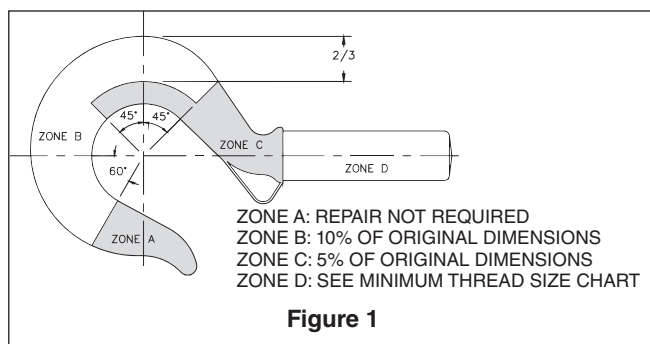

Figure 1
- Never use a hook that is worn beyond the limits shown in Figure 1.
- Remove from service any hook with a crack, nick, or gouge. Hooks with a nick or gouge shall be repaired by grinding lengthwise, following the contour of the hook, provided that the reduced dimension is within the limits shown in Figure 1. Contact Crosby Engineering to evaluate any crack.